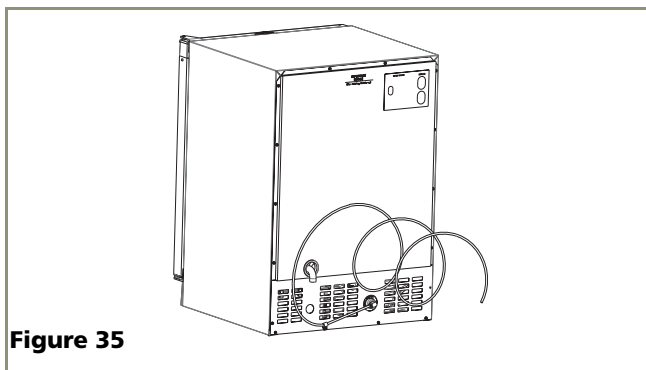

Figure 35
- Leave approximately 8' of water line to be coiled behind the appliance (see **Figure 35**). The water line should be looped into 2 coils. This will allow the unit to be removed for cleaning and servicing. However, make certain that the tubing is not pinched or damaged during installation.
1. Locate the desired cold water supply location. Attach a 1/4" copper line to this location and route the tubing to the appliance. Leave approximately 8' of water line to be coiled behind the appliance. The water line should be looped into 2 coils. This will allow the line to flex when removing the unit for cleaning and servicing (see **Figure 35**).